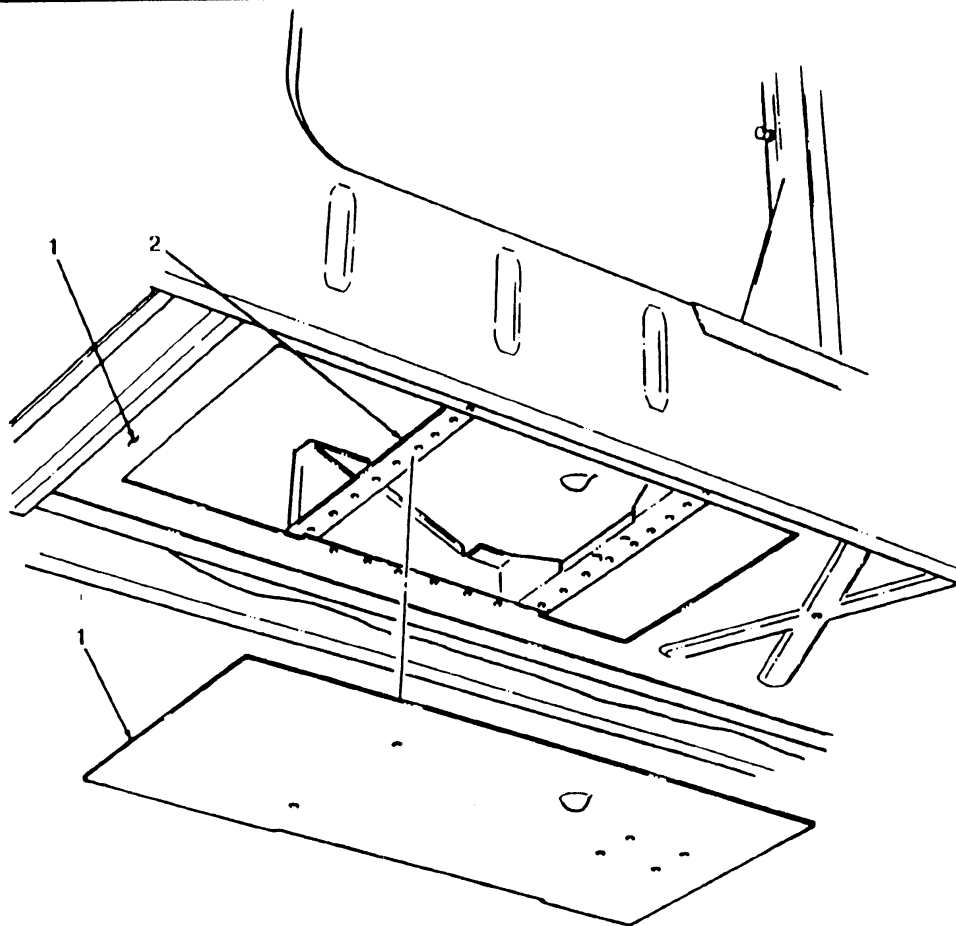

FIGURE 3-37
5. Remove sharp edges and burrs within scribed outline on left front floor panel (1). (see figure 3-37)
6. Remove adhesive residue and clean left front seat support (2).